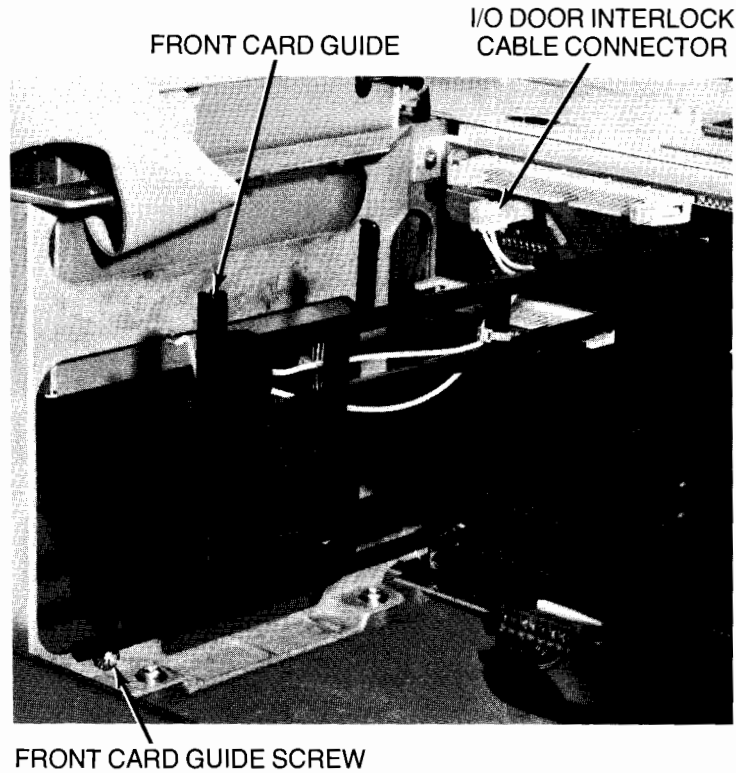

Figure 4-74. Removing Front Card Guide
3. Disconnect I/O door interlock cable connector from I/O backplane (Figure 4-74).
4. Remove #2 Pozidriv screw that attaches front card guide to casting (Figure 4-74) and remove front card guide.